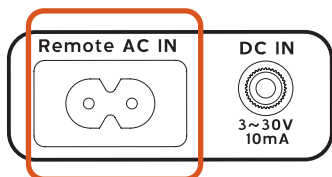

Figure 2a
- A. Plug the female end of the included Remote AC Control Cable into the "Remote AC IN" outlet located on the back of the Power Console. (Fig. 2a)